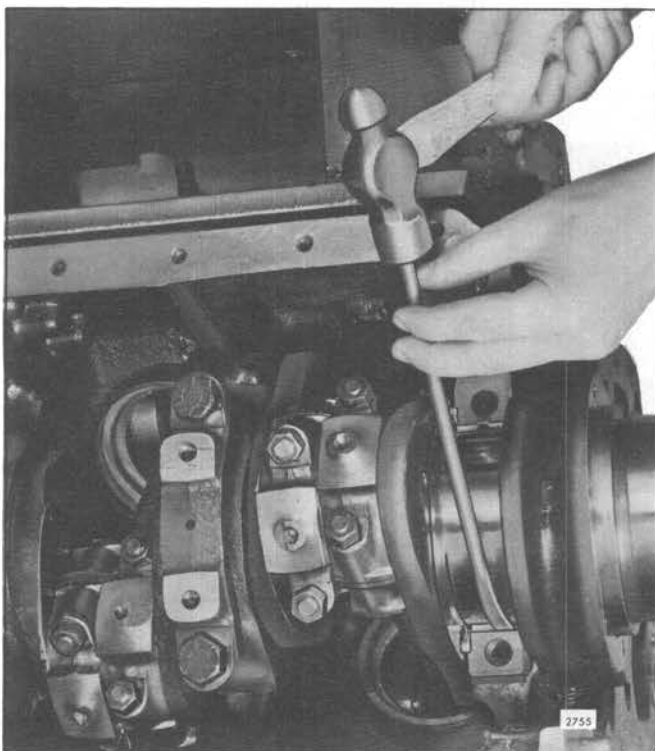

Fig. 4 - Removing Upper Rear Main Bearing Shell
- b. Remove the rear main bearing upper shell by tapping on the edge of the bearing with a small curved rod, revolving the crankshaft at the same time to roll the bearing shell out (Fig. 4).